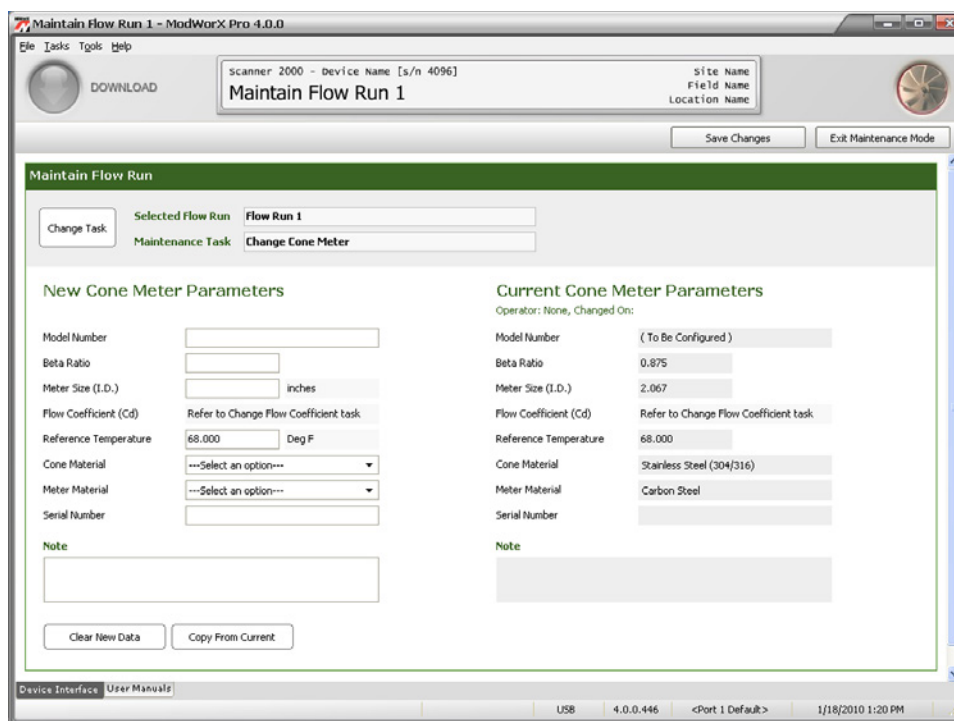

Figure 10.5
- b. Click **OK** to save your selections and return to the Maintain Flow Run screen (Figure 10.5, page 142).